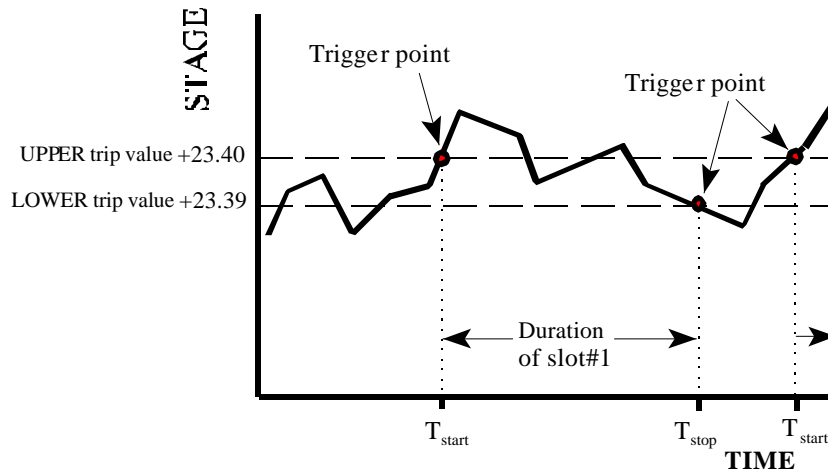

Fig. 1 Implementation of UPPER and LOWER trip values.
The columns entitled **UPPER** and **LOWER Trip Value** are used to define the values at which the alarms are to be activated (see Figure 1 below) whereas those entitled **Actions** are used to define what is to take place when either trip value is surpassed.
The terms *UPPER* and *LOWER Trip Value* require further explanation. These two values are, in fact, the same alarm point but are implemented to account for hysteresis as depicted in Figure 1, where the exact trigger points are shown for the alarm configured in the *Sensor Alarm Table* above. Given that the alarm is setup to be activated by the stage (HG) of slot#0, the following can be noted with respect to Figure 1: